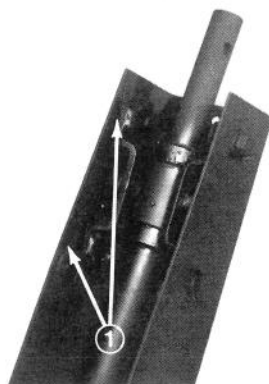

Figure 53
4. Remove four (4) capscrews securing Top Bearing Assembly. Retain any shims installed between Bearing Support and Tower Housing (Fig. 53).